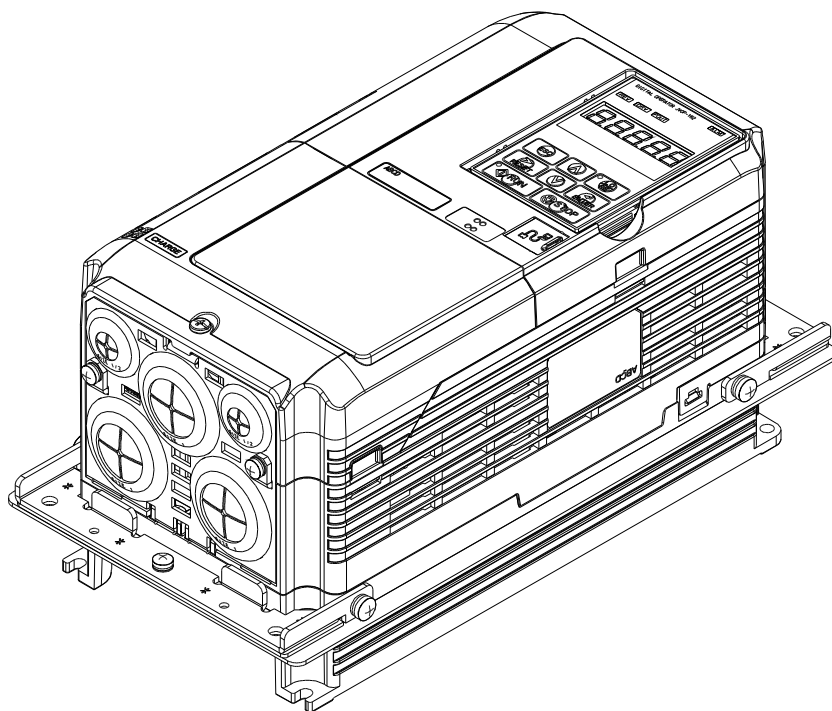

Figure 5: Installation completed
4. Reinstall the top cover. Figure 5 shows the completely prepared inverter.